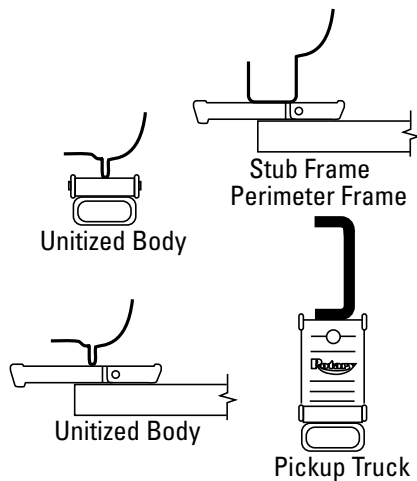

Fig. 4
5. **Loading:** Position arms and adapters at the vehicle manufacturer's recommended lift points. Use intermediate, high step or optional adapters/extensions for under-body clearance when required, Fig. 3 and Fig. 4.
- B. Adapters are in secure contact with frame at vehicle manufacturer's recommended lift points, Fig. 3 and Fig. 4.
Check Adapter Contact: Stop and check adapters/pads for secure contact at vehicle manufacturer's recommended lift points, Fig. 3 and Fig. 4. Shake car moderately at front or rear bumper.